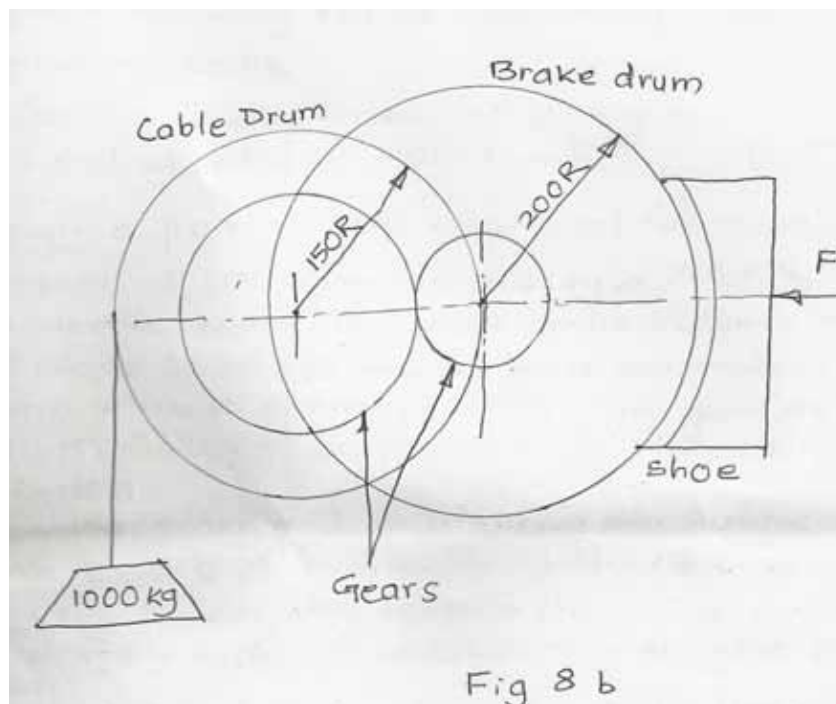

Fig. 8b
- b) A block brake with a short shoe is shown in Fig. 8b. It is designed so that the product $p \times V$ is limited to 2.